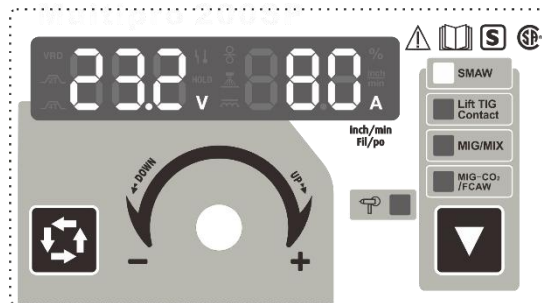

Fig.13 MMA Mode.
④ Three seconds after setting the welding parameters, the **Multifunctional Data Display** will flash once, which means the data has been saved. Moreover, the panel will display these data the next time the machine restarts if the parameters are unchanged.
⑤ The panel displays as **Fig.13** when welding, the welding voltage is 23.2V, and the current is 80A. It will return to the default state of welding current after 5 seconds of inactivity.